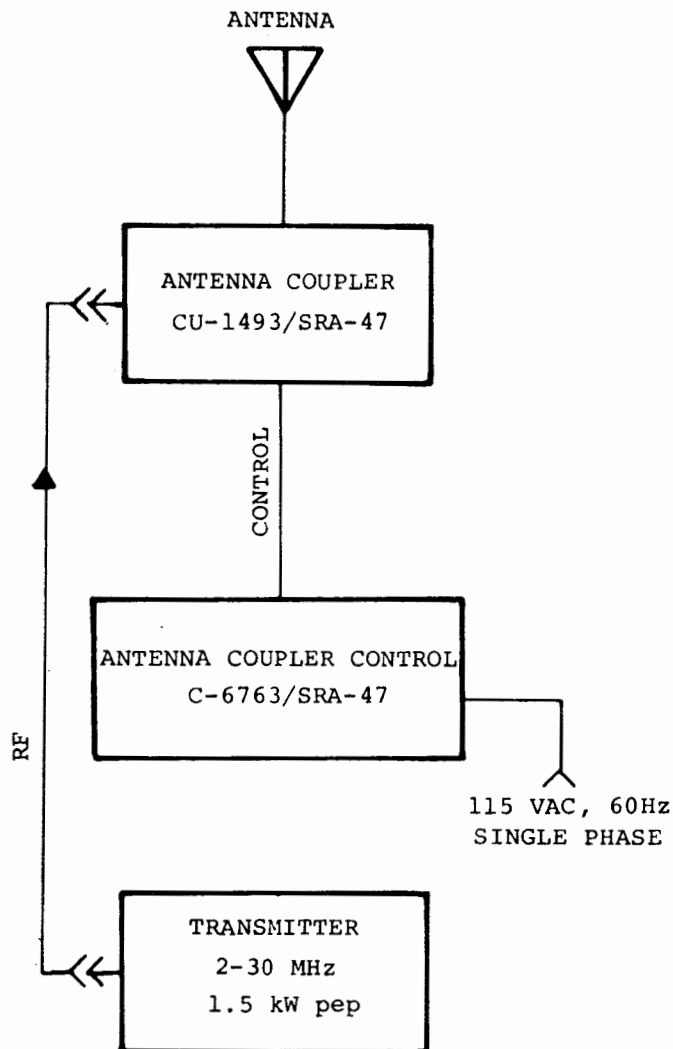

Figure 6-31 Antenna Coupler Group AN/SRA-47 Interconnection Diagram
c. INTERCONNECTION DIAGRAM. - See Figure 6-31.